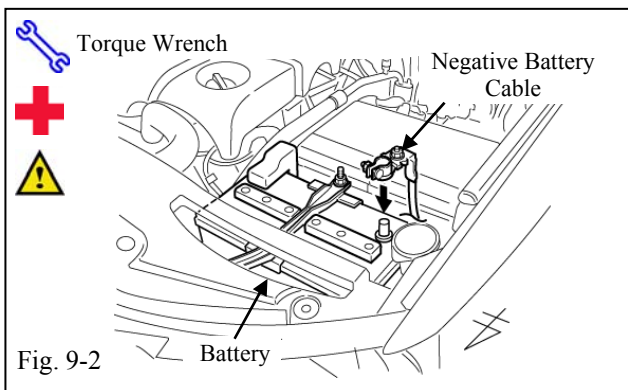

Fig. 9-2
- (c) Position the Negative Battery Cable at the original factory position. (Fig. 9-2)
- (1) Tighten the Nut to 36 in•lbf (4.07 N•m)